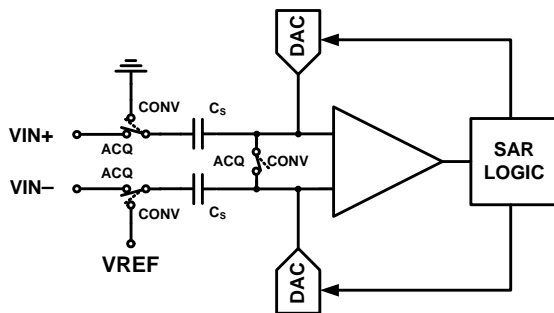

FIGURE 19. SAR ADC ARCHITECTURAL BLOCK DIAGRAM
The ISL267452 is based on a successive approximation register (SAR) architecture utilizing capacitive charge redistribution digital to analog converters (DACs). Figure 19 shows a simplified representation of the converter. During the acquisition phase (ACQ) the differential input is stored on the sampling capacitors (CS). The comparator is in a balanced state since the switch across its inputs is closed. The signal is fully acquired after t_{ACQ} has elapsed, and the switches then transition to the conversion phase (CONV) so the stored voltage may be converted to digital format. The comparator will become unbalanced when the differential switch opens and the input switches transition (assuming that the stored voltage is not exactly at mid-scale). The comparator output reflects whether the stored voltage is above or below mid-scale, which sets the value of the MSB. The SAR logic then forces the capacitive DACs to adjust up or down by one quarter of full-scale by switching in binarily weighted capacitors. Again, the comparator output reflects whether the stored voltage is above or below the new value, setting the value of the next lowest bit. This process repeats until all 12 bits have been resolved.